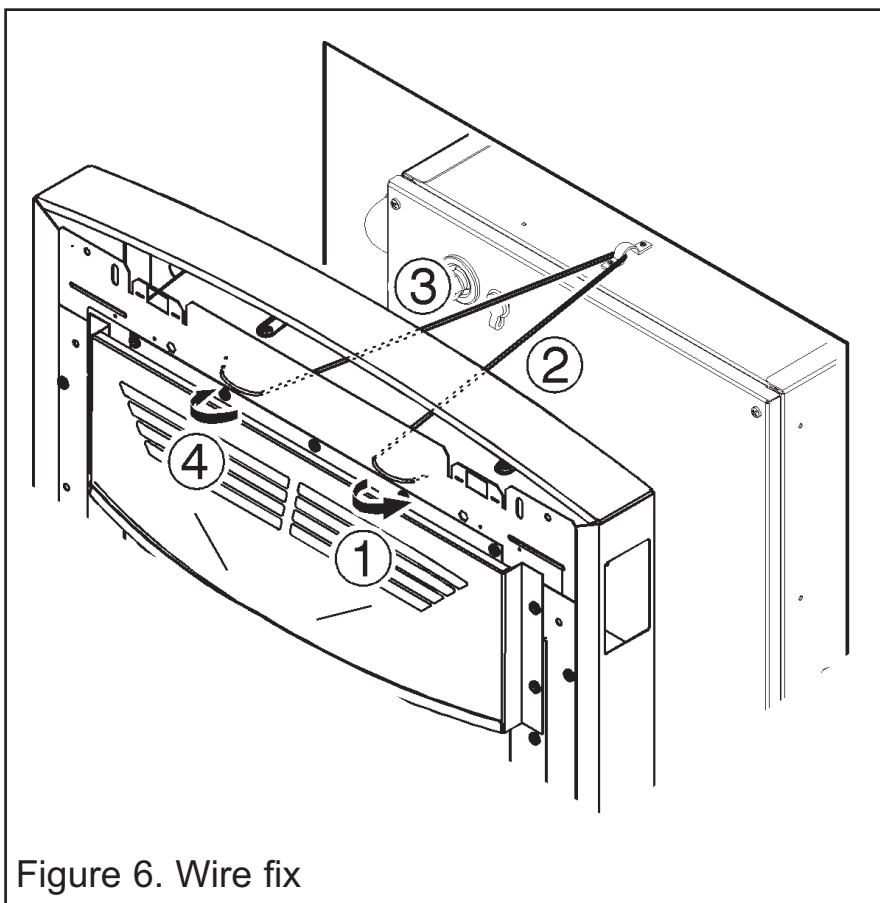

Figure 6. Wire fix
6. At the top of the firefront there are four small holes, two each side of the firefront. From the front of the firefront, thread about 50mm of the plastic wire into the outside small hole on the right side of the firefront (See point 1 - figure 6).
7. Thread the other end of the wire through the remaining small hole to the left. Continue to push the wire through this hole until there is only a small loop of wire at the front of the firefront (See point 2 - figure 6).
This will secure the plastic wire. Take the long piece and thread this through the bracket located at the top centre of the boiler (See figure 6).
9. From the back of the firefront thread the long piece of plastic wire through the inner small hole on the left hand side of the firefront (See figure 6).
10. Locate the firefront in the fireplace opening, then from the front of the firefront, gently pull the plastic wire on the right hand side to gather up the excess until the firefront is secure. Thread the wire through the remaining small hole to lock the wire and firefront in place (See point 4 - figure 6).